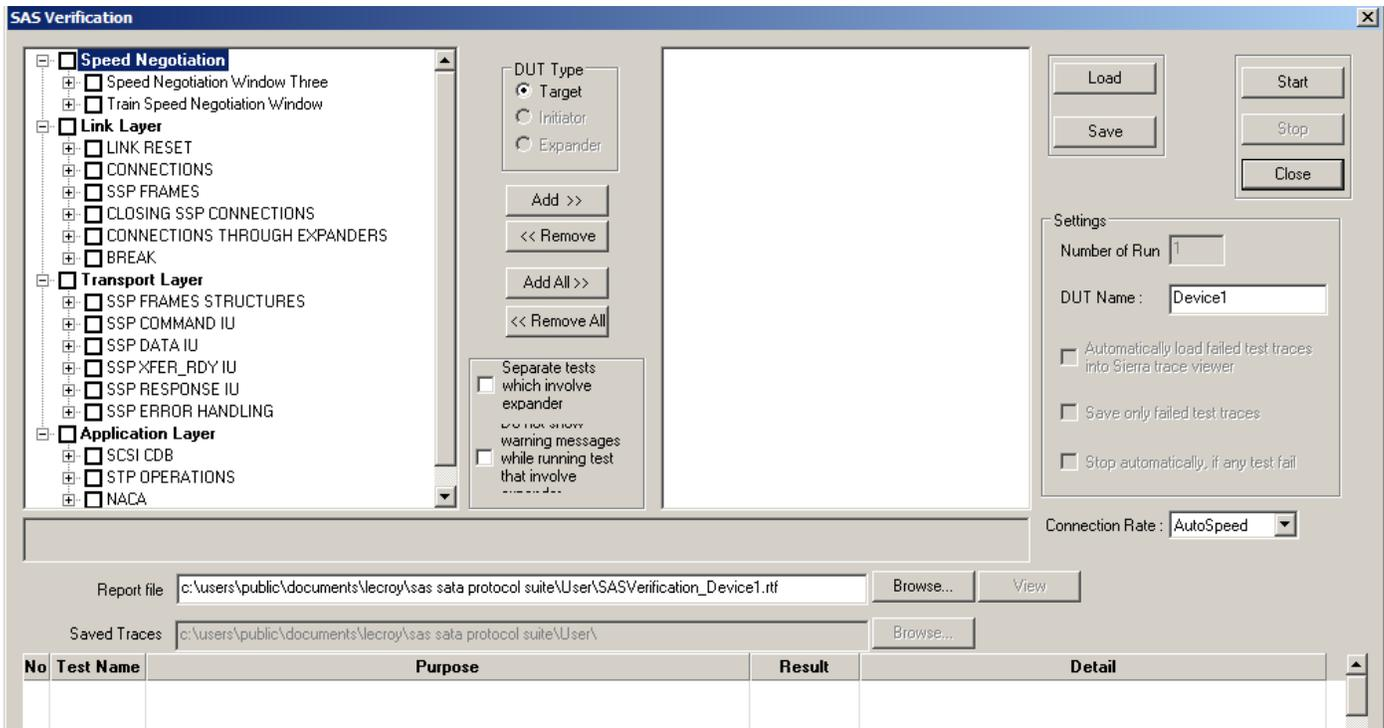

Figure 3.162: SAS Verification Dialog.
1. Select **Analysis** on the main toolbar and choose **SAS Verification** to open the SAS Verification dialog (see Figure 3.162 on page 228).